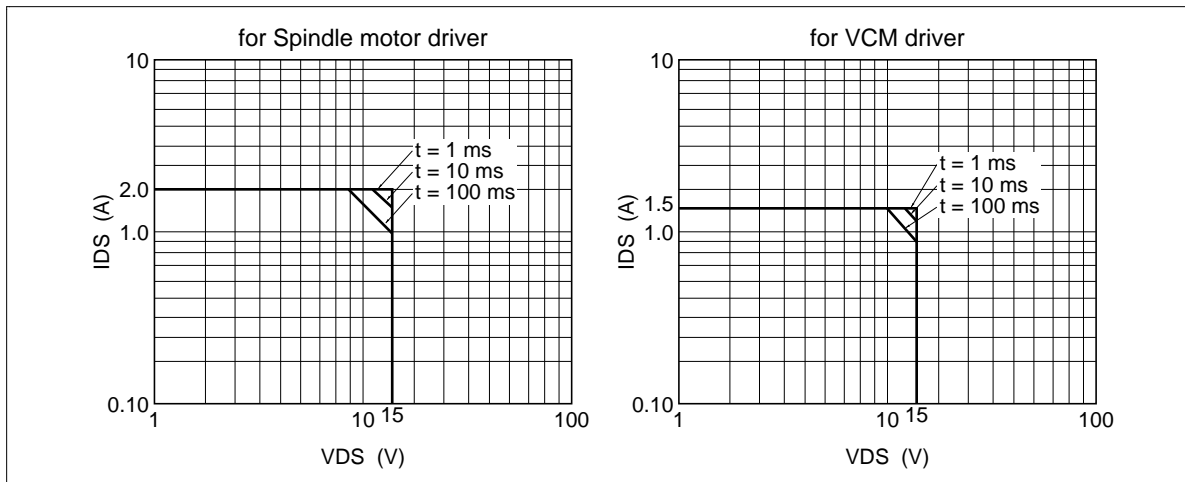

Figure 10 ASO of Output Transistor
3. ASO (Area of Safety Operation) of each output transistor is shown in figure 10. Operating locus must be within the ASO.